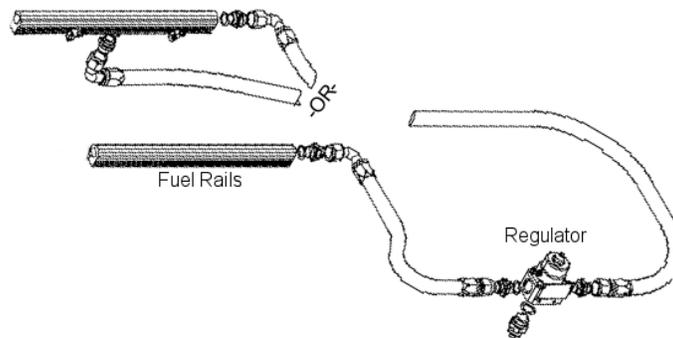

Figure 3-1
- 3-7. Starting from the fuel rails, plan a route to run an AN-08 supply line from each fuel rail to each side of the regulator, see figure 3-1. Cut the two supply lines to the determined length and install the AN-08 hose ends, as detailed in Section 4.
- 3-8. Using the above steel braided hose assemblies, connect one end to the side of the fuel pressure regulator and the other end to the fuel rails, as shown in figure 3-1, and tighten.
- 3-13. Using the above steel braided hose assemblies, connect one end to the Y-block and the other end to the fuel rails, as shown in figure 3-1, and tighten.